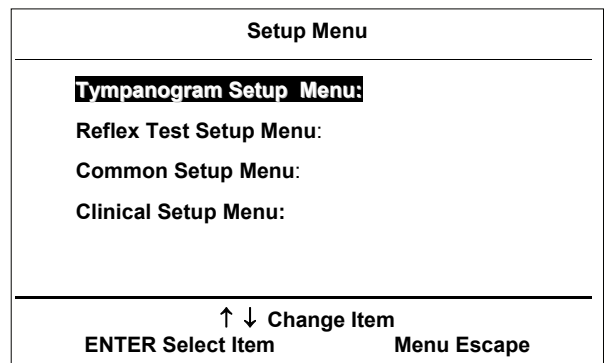

Figure 36 Main Menu (Setup activated)
Select the menu option SETUP as illustrated in Figure 36 and the main setup menu will appear on the LCD display ⑤. You can make different settings for the measurement of the tympanogram and the stapedius reflex, for instrument setup (for example the contrast of the LCD display ⑤). All your settings are saved permanently until you will change them again. The settings also survive when the instrument is switched off.